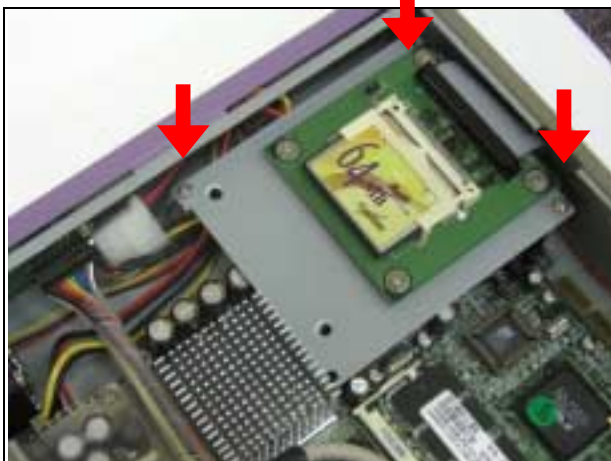

Fig. 2-23 Fix all four screws back
4. Fix all three screws back (**Fig. 2-23**).